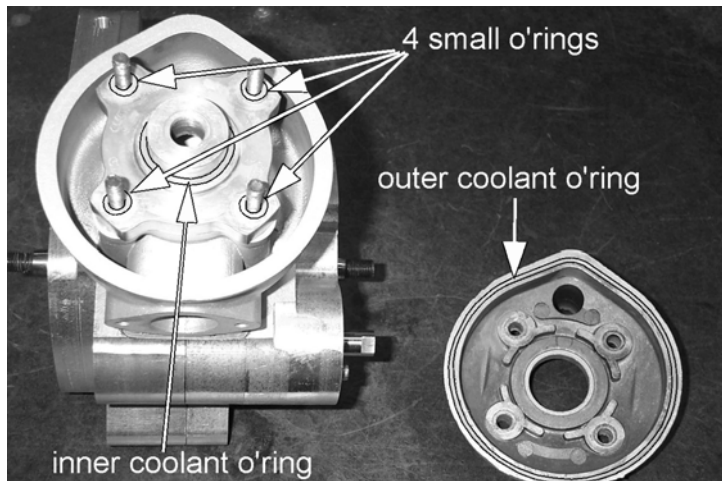

Figure 31
27. Install O-RINGS as shown in figure 31.